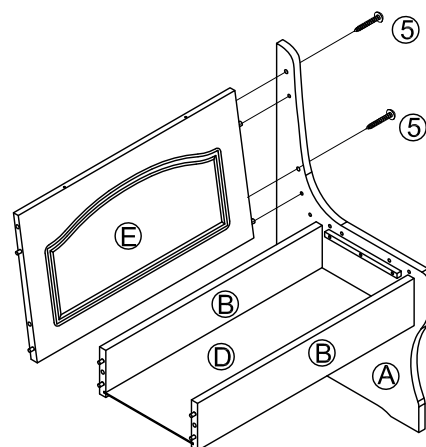

FIGURE 2.3
- 2.3 WITH MIDDLE LEG #A PLACED ON FLOOR ATTACH SINGLE BENCH BACK REST #E TO MIDDLE LEG #A. USING PRE-DRILLED HOLES AS GUIDE, USE (02) SCREWS ⑤ AND PHILLIPS HEAD SCREWDRIVER (NOT PROVIDED) TO SECURE, AS SHOWN IN FIGURE 2.3